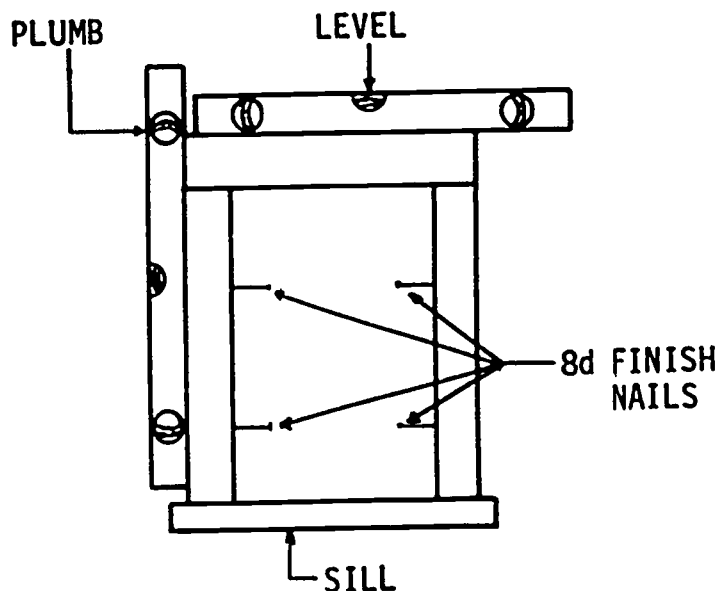

Fig. 59-1. Plumbing and Leveling Window Frame
- Insert the window unit into the opening. Plumb and level it into position. See Fig. 59-1.
- Nail the window in place with two 8d finish nails on each side. See Fig. 59-1.